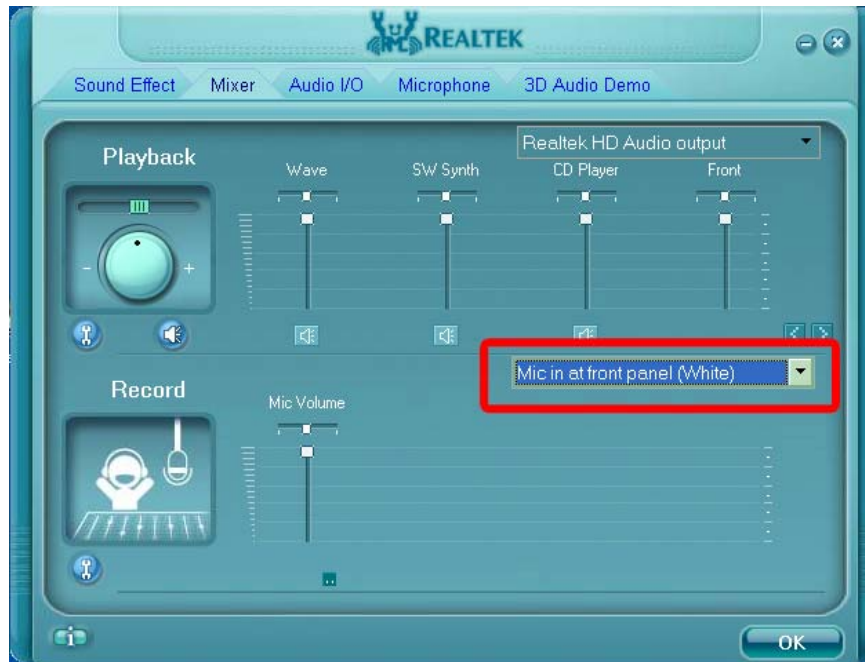

Figure C-5: Enabling the Digital Microphone Function
Step 7: From the dropdown list box in the **Record** section, select **Mic in at front panel (White)** (Figure C-5).